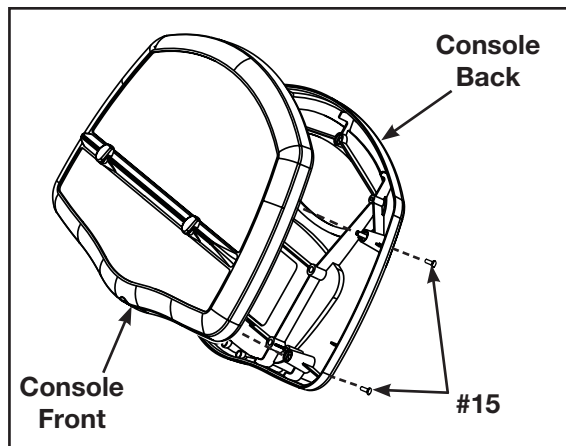

Figure 8
- A. Locate the display console (#6) and four screws 1/4-20 x 1.25" (#15). See Figure 8.
- B. Using a Phillips head screwdriver, remove the four screws securing the console front to the console back. See Figure 8.
- F. While being sure not to pinch any cables, use a Phillips head screwdriver to tighten the four screws securing the console front to the console back. See Figure 8.